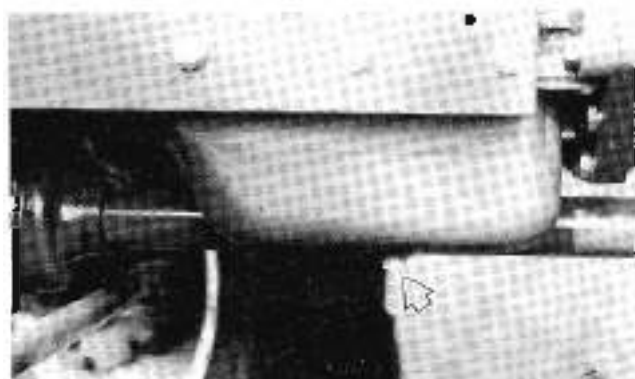

Figure 36 - Engine Oil Drain Plug
4. With the engine off, but at normal operating temperature, drain the engine oil by removing the drain plug, Figure 36, located on the pan after the oil has drained and cleaned out.